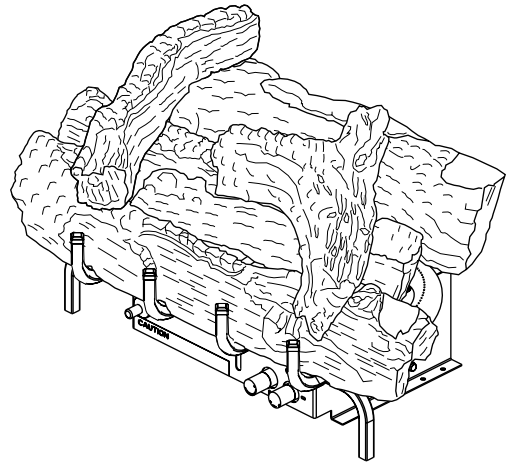

Figure 28 - Final Assembly For 18" Models
8. Final assembly for 18", 24" and 30" models is shown in **Figures 28, 29 and 30.**